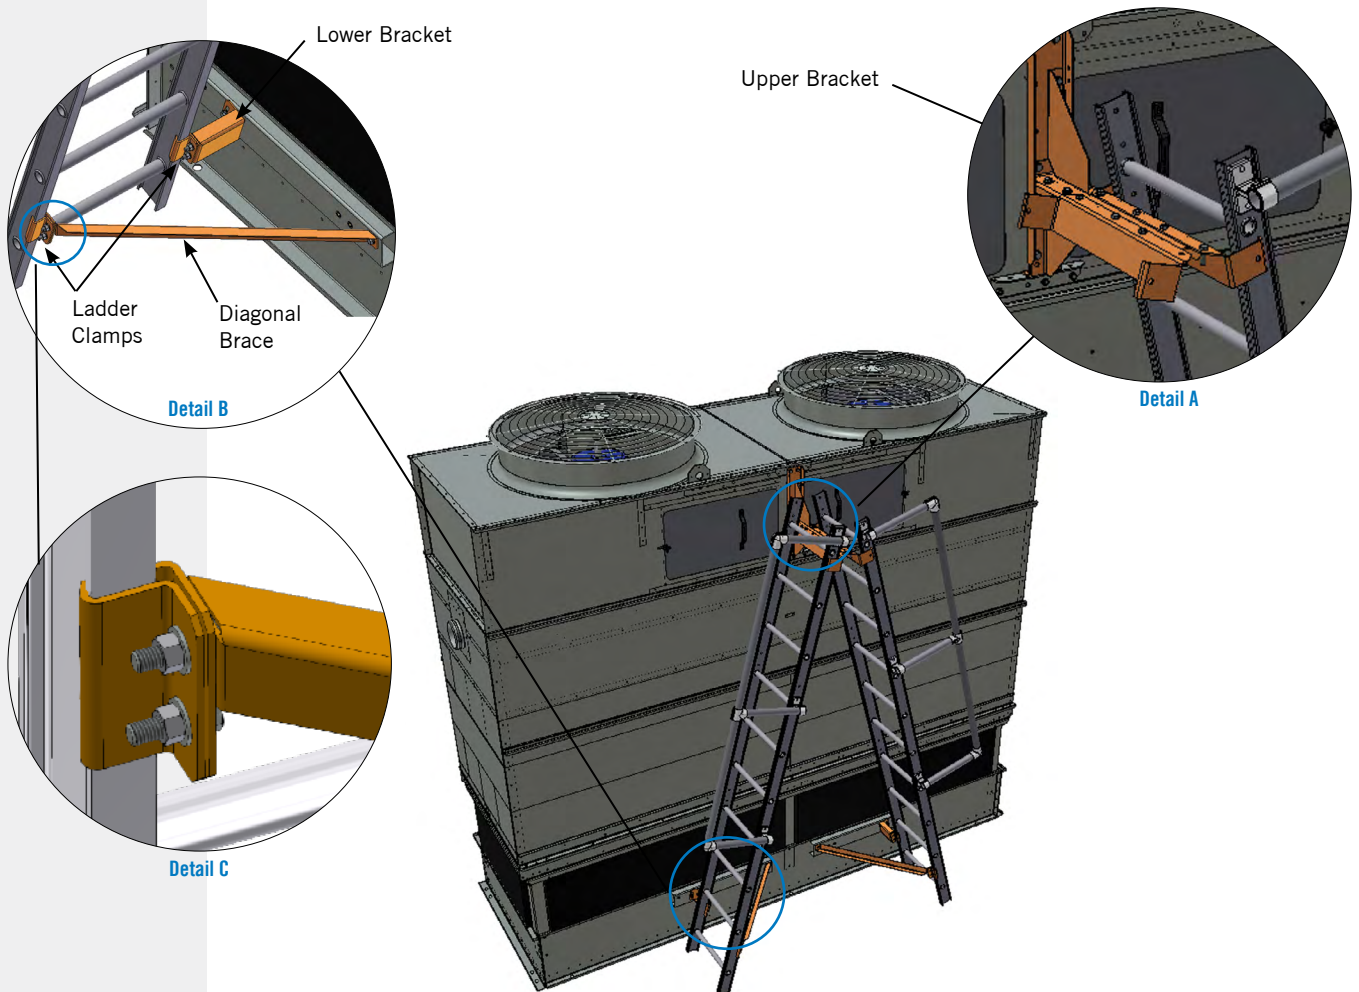

Figure 22. Inclined Access Ladders for PT2-0412
Refer to Figures 22 to 24 for your particular unit.
1. Install the upper bracket as shown in **Figures 22 to 24, Detail A**. Depending on the unit, this bracket might be factory installed.
2. Install the lower bracket(s) in the two outermost holes in adaptor channel as shown in **Figures 22 to 24, Detail B**.
7. Loosely fasten the diagonal braces of the lower support assembly into position with the ladder clamps, as shown in **Figures 22 to 24, Detail B and Detail C**.